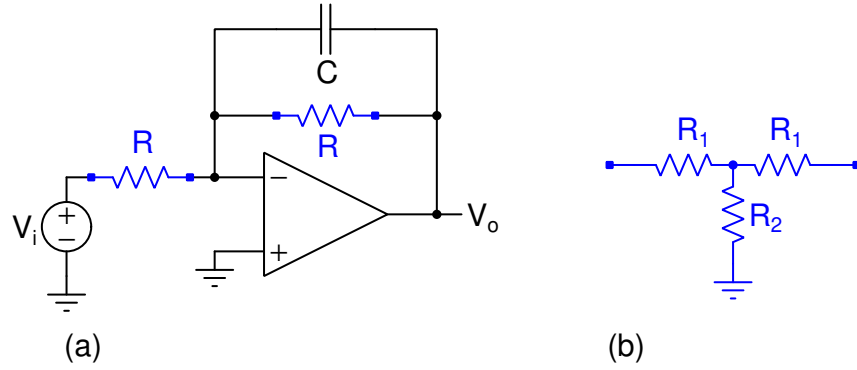

Figure 3.3: Problem 3.3.
3.3. Fig. 3.3(a) shows an RC low-pass filter with a bandwidth of 10^4 rad/s. $C = 1$ pF.
- Because of area constraints, the total resistance that can be used on the chip is restricted to $2\text{ M}\Omega$. The structure in Fig. 3.3 is used in place of the two resistors. Determine R_1 and R_2 so that the transfer function remains the same while using the maximum allowed total resistance (Hint: Determine y_{12} of the network in Fig. 3.3 and equate it to that of the single resistor.).